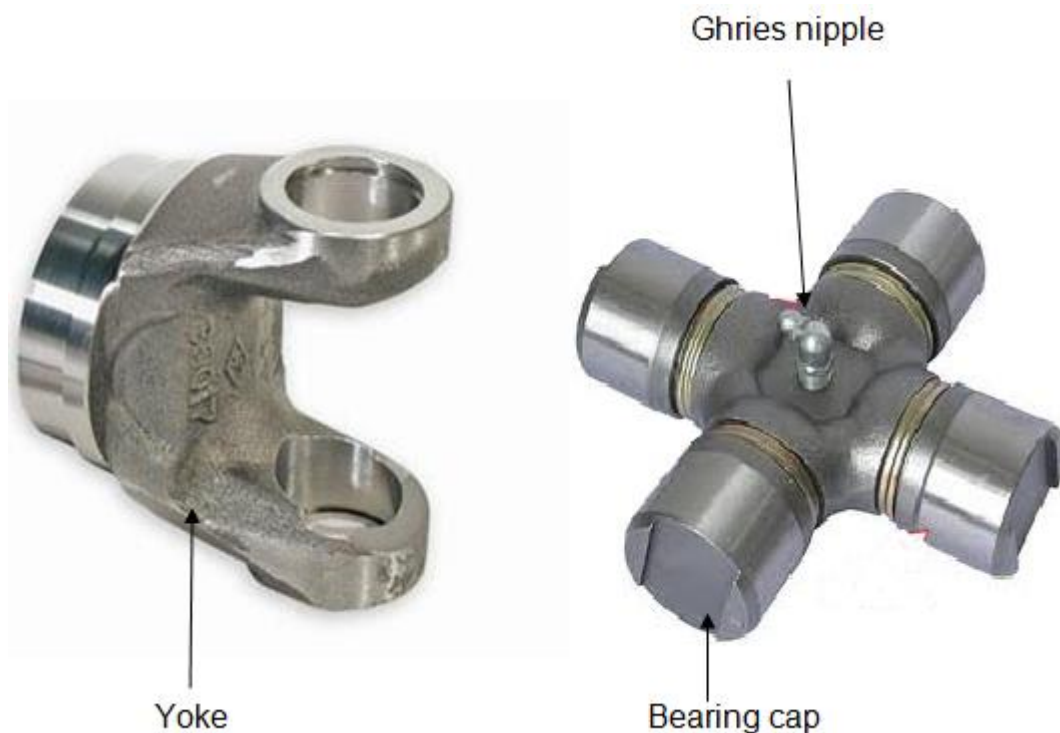

Fig. 11
- Position the spider in the yoke (Fig. 11).